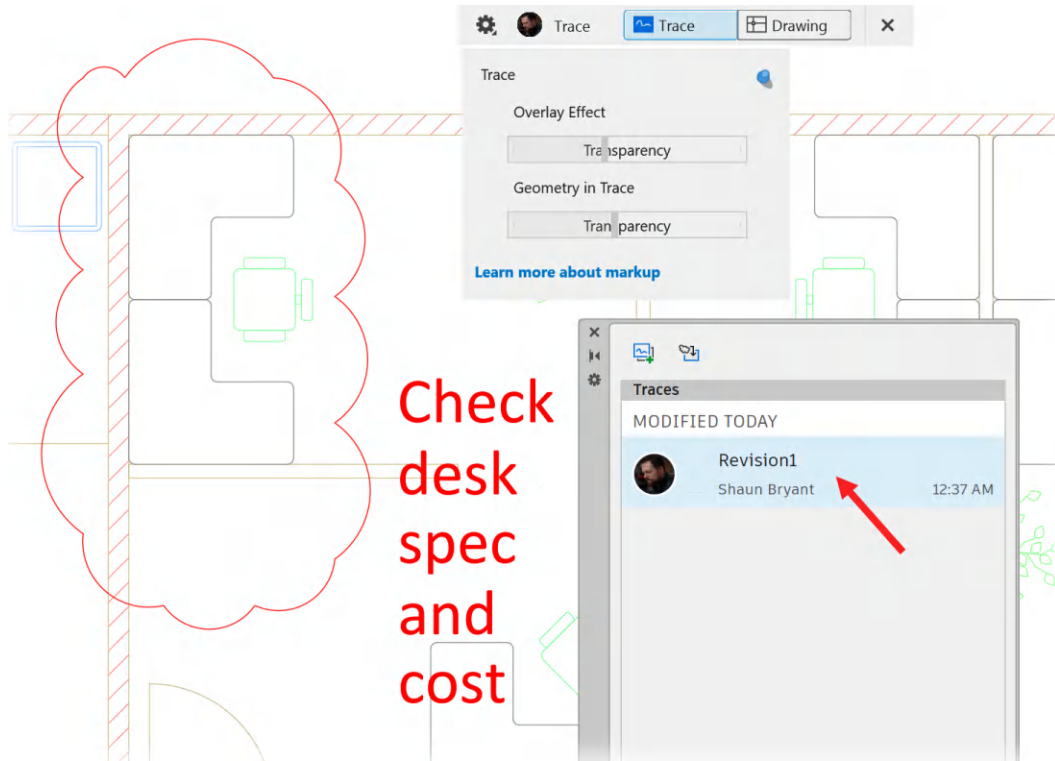

Figure 16.34: The trace in the drawing is displayed in trace mode
- Once the trace is selected, you will enter trace mode in AutoCAD, and the trace will be displayed, as shown in *Figure 16.34*.